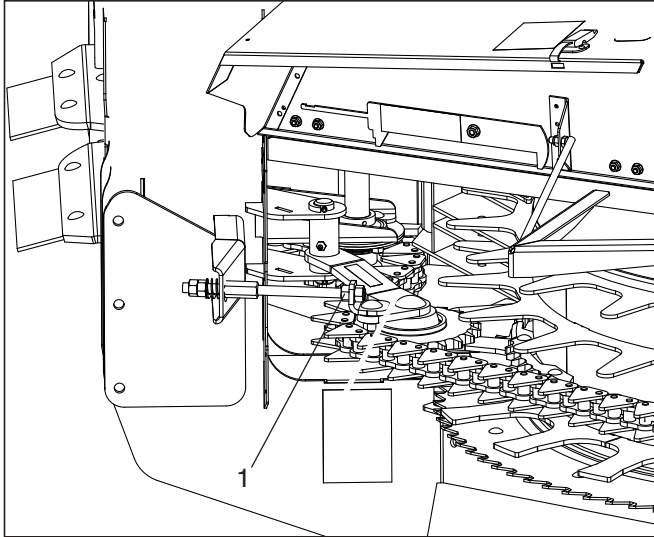
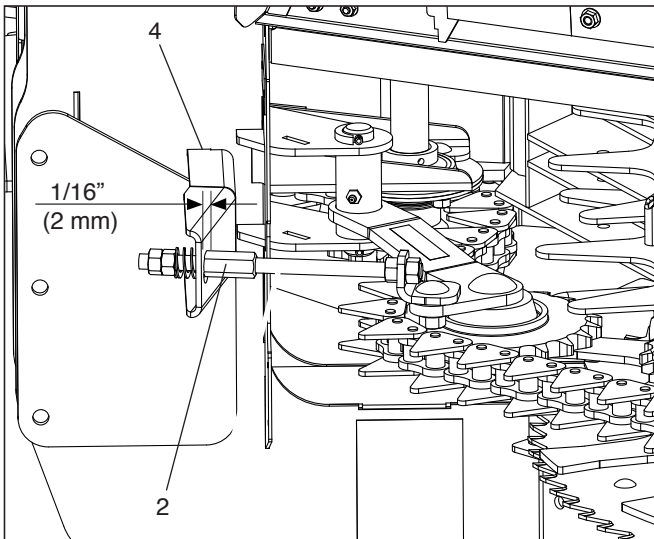

Figure 29 Loosen nut (item 1)
Figure 30 Tighten bolt (item 2)
To tighten the chain, simply loosen nut (item 1 in figure 29) and then tighten bolt (item 2 in figure 30) until chain tension is appropriate or until nut (item 1) no longer touches support bracket (item 4 in figure 30). Gap should be the two should be approximately 1/16" (2 mm) as shown. Tighten nut (item 1).